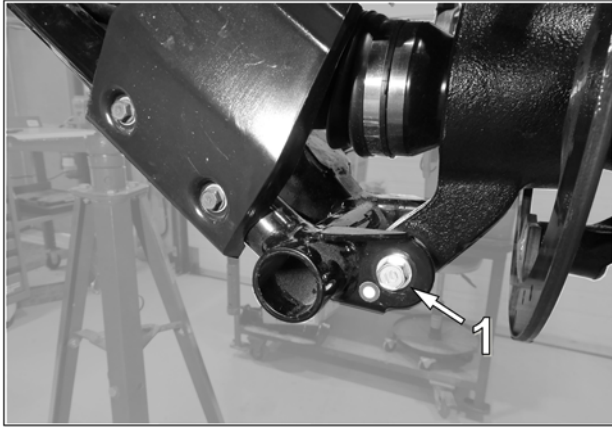

Fig. 4
- Loosen and remove flange bolt (1) linking the lower suspension arm to the wheel hub. See Fig. 4